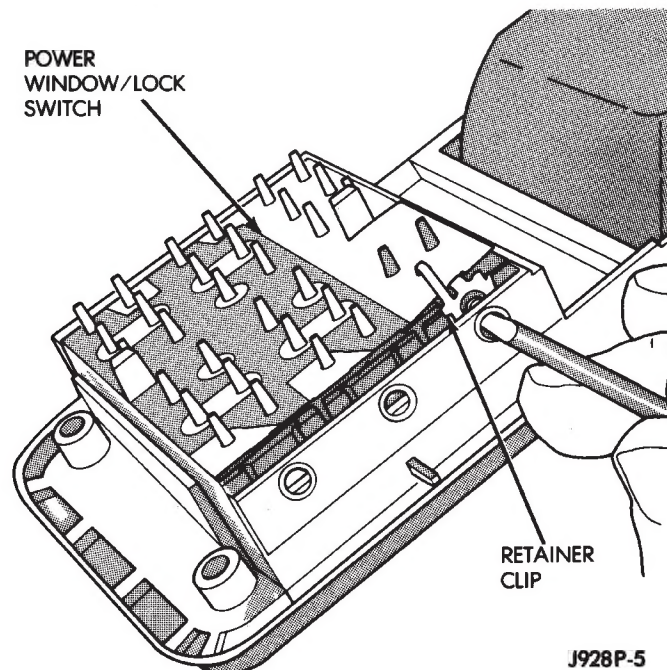

Fig. 2 Power Window Switch Remove
(2) Disconnect the control linkage and the wire harness connector.
(3) Remove the latch release and control panel assembly.
(4) The switch is retained to the panel with clips (Fig. 2). Push in on the retainer part of the clip and pry the clips.